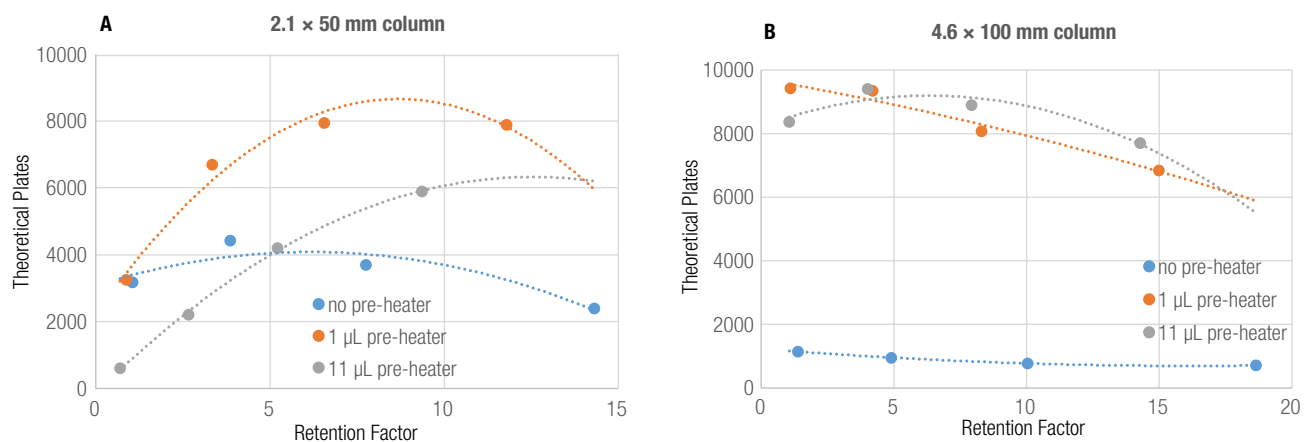

Figure 13. Plot of plate number against retention factor for both column type and experiment with no pre-heater, 1 μ L pre-heater, and 11 μ L pre-heater
The deepest insights into the effect of the pre-heater on peak shape can be obtained from plotting the determined plate number (N) of all peaks against their retention factor (k). Figure 13 compares the curves with and without pre-heaters in two different columns and methods. While the effect of thermal mismatch is expressed as a reduction in plate number with increasing retention, the effect of extra-column dispersion has the opposite characteristic. The N vs k plot can be used to characterize if the extent of extra-column dispersion of a system is appropriate for a certain column and method. Less extra-column dispersion can be tolerated with smaller peak volumes, in particular for early eluting peaks in isocratic methods. A basic rule of thumb demands 80% of the maximum efficiency that a column delivers in a given method should be achieved at a retention factor above 2. However, if plate numbers decrease in a method with increasing retention, a thermal mismatch effect is indicated. Although it is difficult to discriminate both effects occurring simultaneously, the N vs k plots can give valuable hints. The curves for small bore UHPLC columns are shown in Figure 13A. The operation without the pre-heater (blue) shows decreased efficiency with increasing retention, which clearly indicates thermal mismatch. The curve for the 1 μ L pre-heater (orange) shows a normal characteristic of increasing plate number with the second peak at k=3.3 exhibiting 85% (6700) of the maximum plate number of 7900 which is acceptable. The curve for the 11 μ L pre-heater (grey), starts with extremely low efficiency, while the second peak at k=2.7 only shows 37% (2200) of the maximum efficiency of 5900 plates, which is far below the 8000 plates that this column